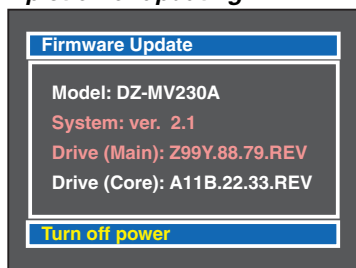

Fig. 1-2e
- 5) When all required updating is completed, the screen for verifying completion of updating will appear. (Fig. 1-2e: The updated firmware will be displayed in red).